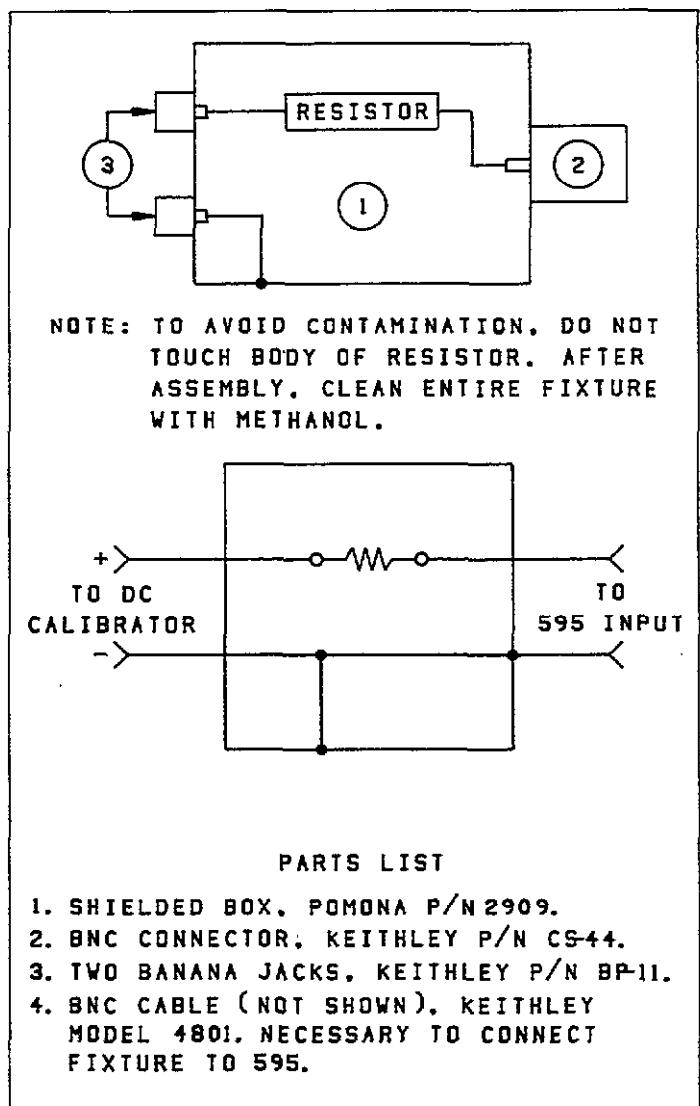
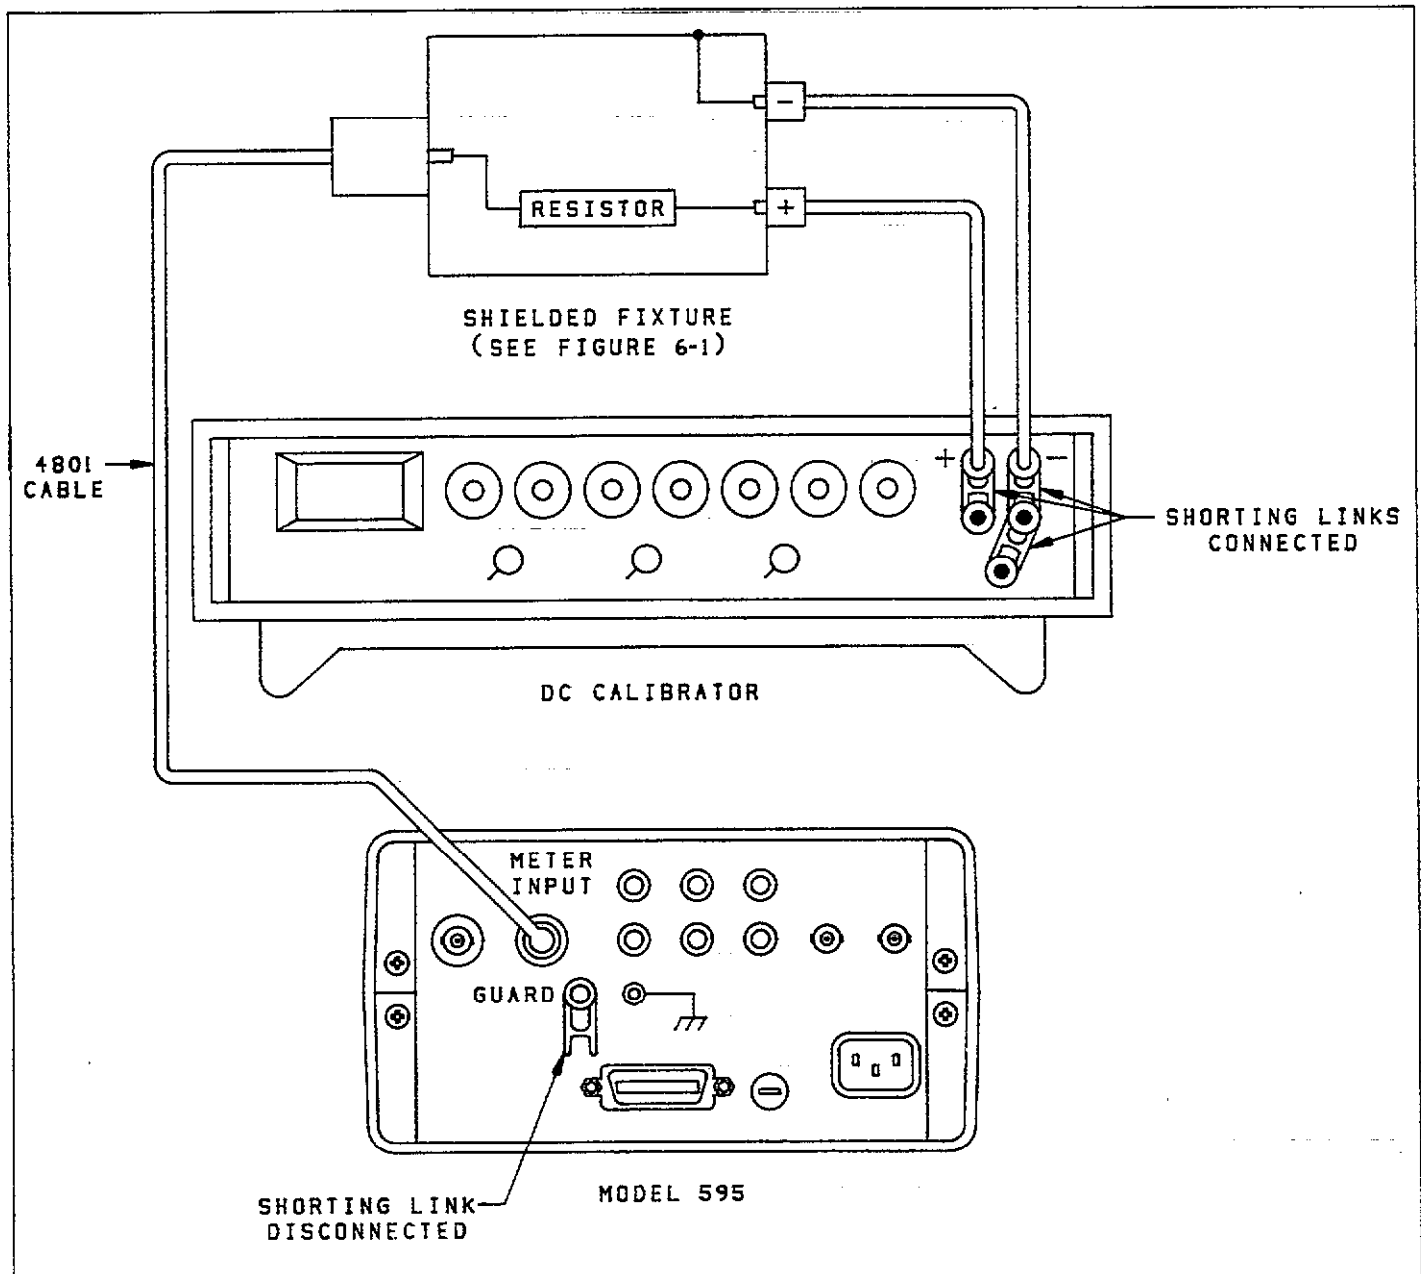

Figure 6-1. Test Fixture Construction.
Figure 6-3. Setup for Current Verification (20pA to 20nA Ranges)
A shielded test fixture will be necessary for the current verification procedure. Construction of this shield is illustrated in Figure 6-1.
12. Mount the $100\text{M}\Omega$ resistor in the shielded fixture (construction is covered in Figure 6-1) and connect the fixture to the instrument, as shown in Figure 6-3.